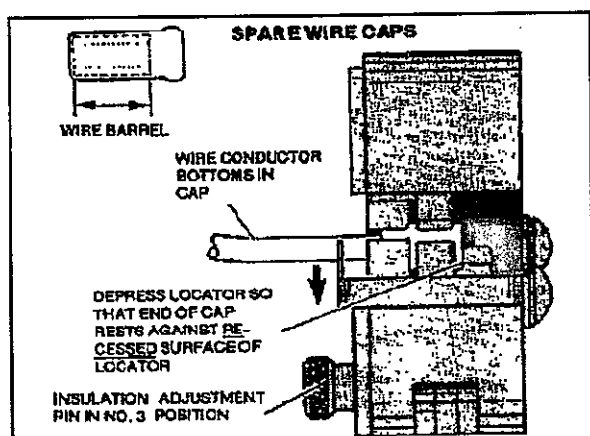

Fig 4
### 2.2.3 Spare Wire Caps (Refer to Figure 4)
- Depress locator so that end of cap resets against the recessed surface of the locator as shown in Figure 4.